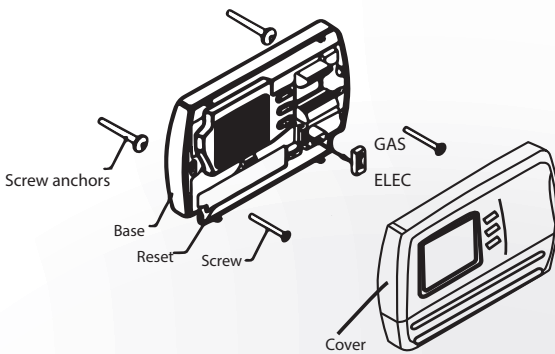

FIGURE 1
- 8** Fasten the base loosely to the wall as shown in **Figure 1**, using two mounting screws. Place a level against the bottom of the base and adjust until level, then tighten the screws. (Leveling is for appearance only, and will not affect thermostat operation)
Read the following information before setting the fan option switch (See figure 1). If you are unsure of your application, contact a qualified service person.